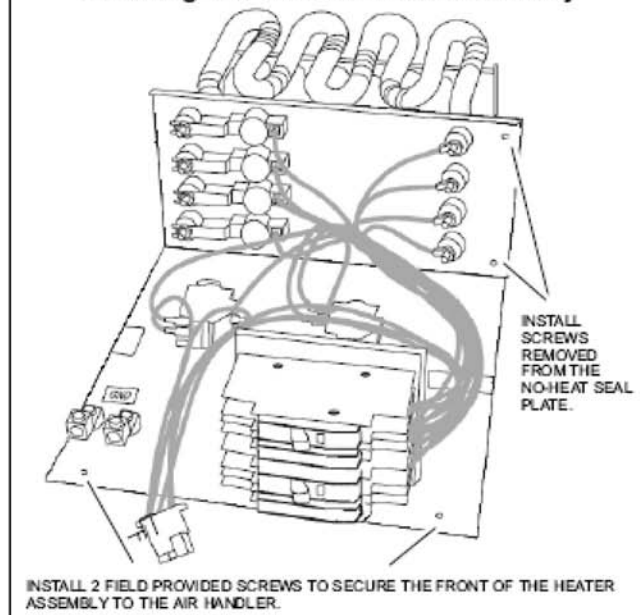

Figure 2
6. Secure the electric heater assembly into place with the screws that were removed from the heat element panel. Install two field-provided #8 SDST screws in the front of the electric heater assembly (see figure 2).